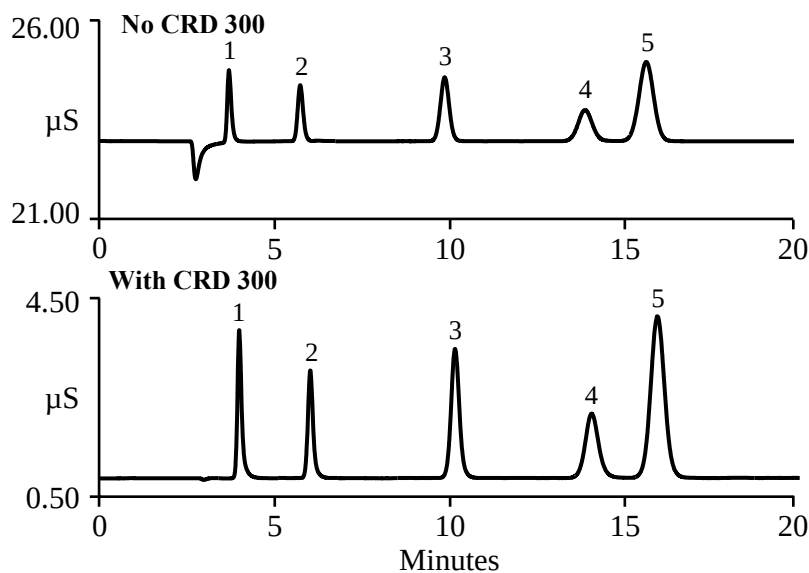

FIGURE 7
5.1.1. Carbonate or carbonate/bicarbonate are commonly used as eluents for the ion chromatography analysis. The example below (see Figure 7) shows the chromatograms obtained with and without CRD 300 inline. The CRD 300 is useful in reducing the background conductivity, minimizing the void, and increasing the analyte peak height and area.